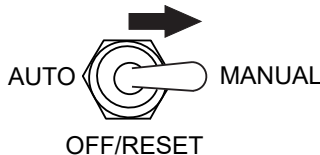

Figure 100. Auto Start/Stop Switch
2. While keeping the **Hour Check Button** pressed, place the **Auto Start/Stop Switch** (Figure 100) in the **MANUAL** position.